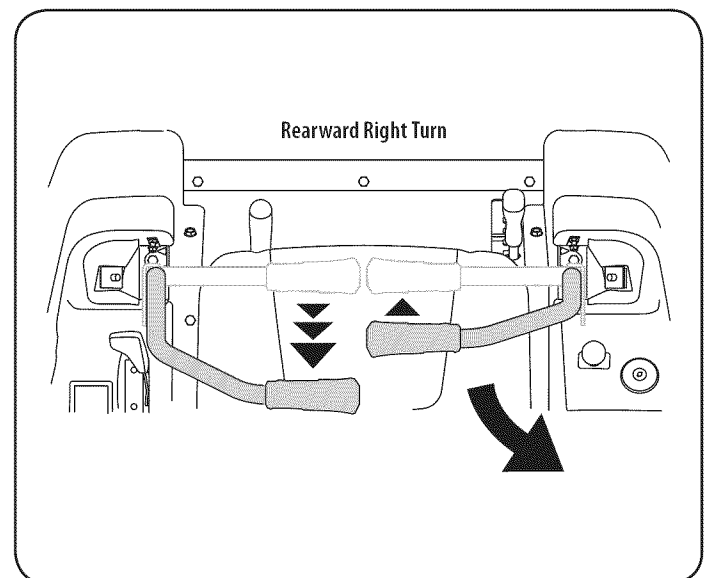

Figure 20
3. To turn to the right while traveling in reverse, move the right drive control lever forward of the left lever. See Figure 20.